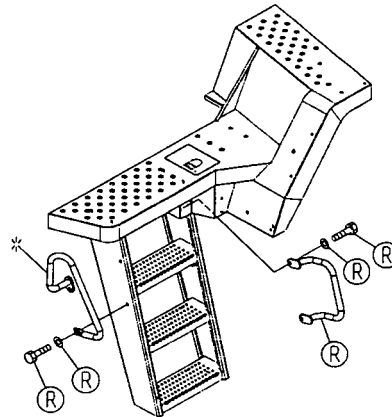

Fig. 2
- (2) Removing the left handrail and mudguard sheets for the ladder and rear fender
- The parts that must be removed are shown in Figs. 2 and 3.